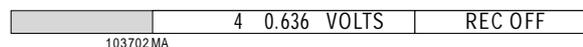

Figure 3-5 Status Line Showing Point Data
1. Point Information - Point information is displayed on the Status Line as “Point No. XX Value Units” as shown in Figure 3-5.
3. Disk Information - On the right hand side of the Status Line is the disk status information (Figure 3-5). This displays the current condition of the disk that is currently being used to save data. Messages that may appear in this block are as follows: